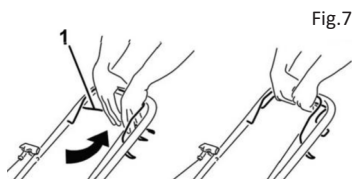

Fig.7
The motion is controlled by the drive lever (Fig. 7 - item 1). When the lever is pulled toward the handle, the lawn mower starts moving.